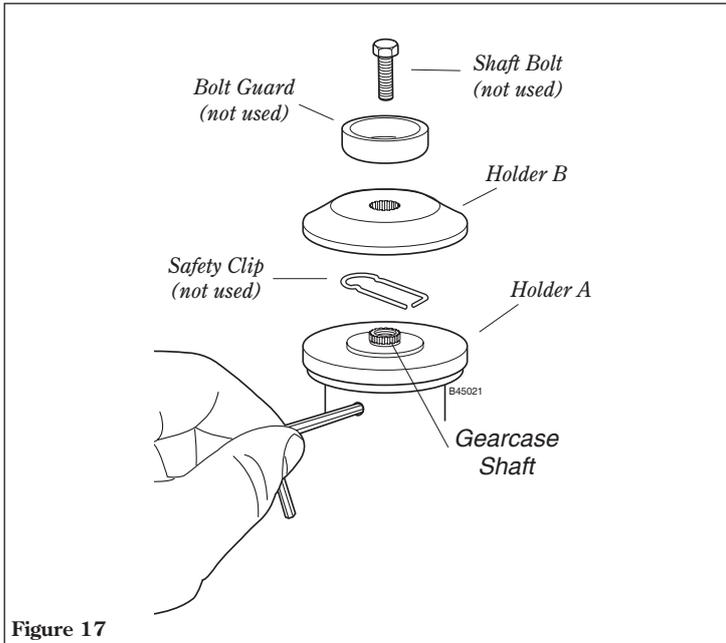

Figure 17
1. With the gearcase output shaft facing up, rotate the gearshaft and holder A until the hole in holder A aligns with the matching hole in the gearcase flange, and then lock the holder to the gearcase by inserting the long end of the hex wrench through both holes. See Figure 17.
2. Using the combination spark plug/ screwdriver wrench, remove the shaft bolt, bolt guard, holder B and the safety clip. (The bolt guard, shaft bolt and safety clip are not used with a trimmer head). See Figure 17.